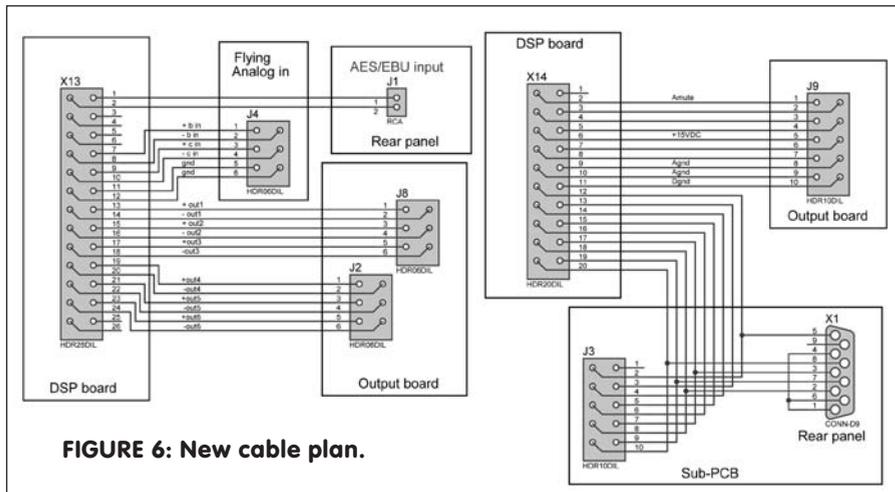

FIGURE 6: New cable plan.
The cable plan is shown in **Fig. 6**, while **Photos 1** and **2** show the cable run in the modified unit. **Photo 3** shows the cable set you need to build.
Not all wires are used; for instance, there is no need to run all supply lines to the new board (except +15V for the reed relays), and the analog input lines are also not used (but see next section). So you should be careful with the cable alignment in the headers, because in some cases the flat cable has fewer wires than the header pins and the cable needs to be aligned left or right. **Figure 6** and **Photo 2** should make that clear.
Currently, I use a WBT RCA jack in one of the unused XLR input mounting holes to connect the digital input (pin X13(1) to RCA center pin, X13(2) to RCA ground pin; see Fig. 6). As mentioned before, you also lose about 10dB of excess gain, so this is a good thing for home use.